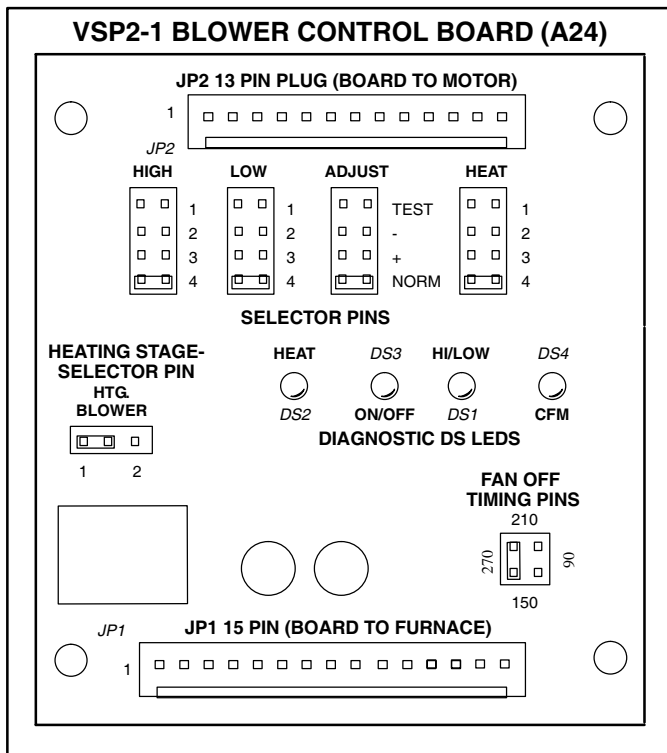

FIGURE 13
| Single Stage Heating | See Figure 13 For Pin Setting |
NOTE - For single stage heat application with the IMC2 motor, VSP2-1 will have a selector pin for single or second stage heating. See figure 13.
-10 to -15 (Figure 13)
To change jumper positions, gently pull the jumper off the pins and place it on the desired set of pins. The following section outlines the different jumper selections available and conditions associated with each one. Refer to figure 13 for identification.